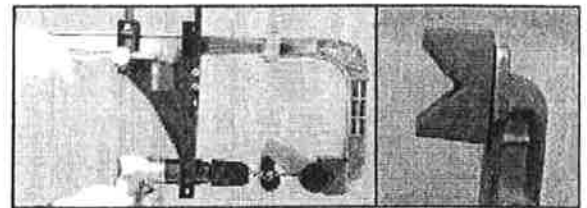

Figure 2
- **"Vee" Block**-this block is used when drilling pipes or round material up to 2 1/2 in. (64mm) diameter. **See Figure 2.**